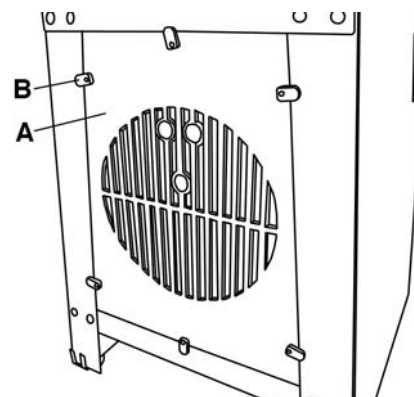

FIGURE 10
Install the 2 stand side covers (A) Fig.10 to the stand. make sure that all locking tabs (B) are screwed into the side covers. Position the side covers inside the stand openings and secure them in place by turning the locking tabs over the edges of the stand as shown in Fig.10.